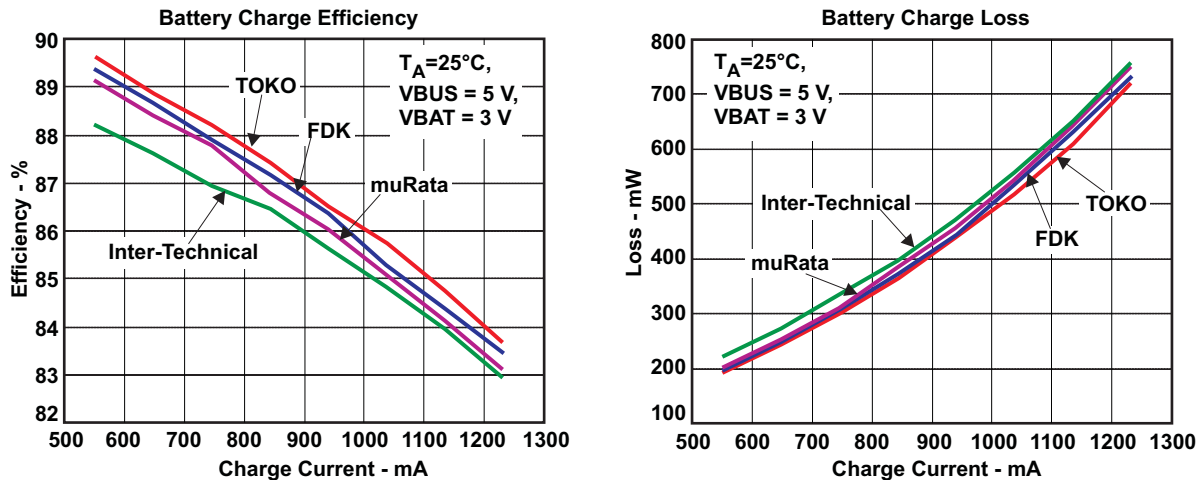

Figure 34. Measured Efficiency and Power Loss
4. Measured efficiency and total power loss for different inductors are shown in Figure 34.